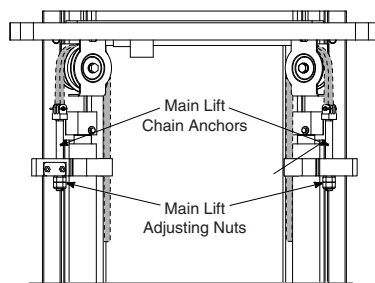

Figure 62.Main Lift Chains.
1. Adjust one chain to achieve the correct upright position when fully lowered. See Figure 62.